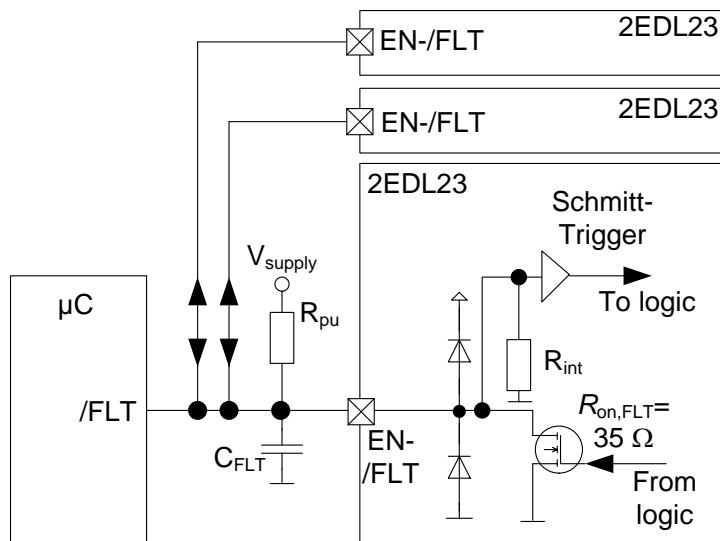
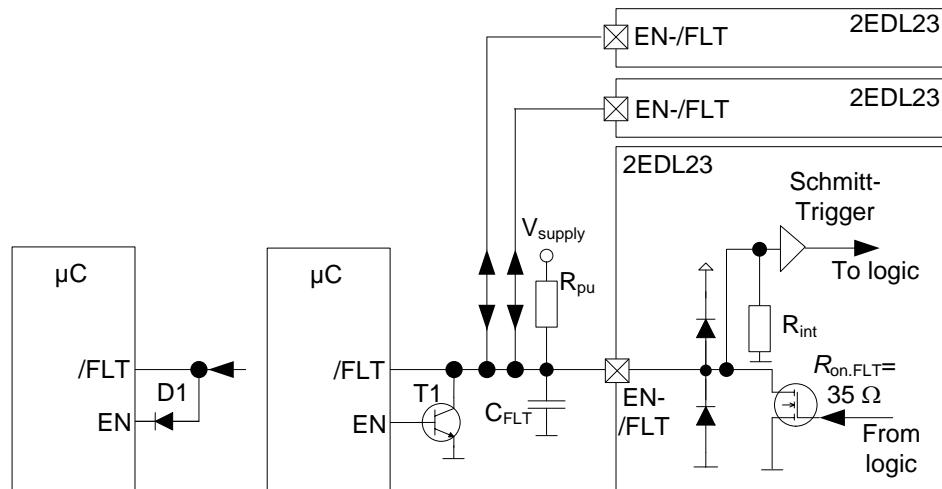

Figure 3 Circuit schematic for temporary latch of fault signal
Figure 4 Circuit diagram for release and shut down by microcontroller with a diode or a transistor
Figure 3 indicates the connection between the microcontroller and the driver ICs for a three phase drive system. All three EN-/FLT pins are connected directly to each other. This configuration does not consider an enable or shut down option by active manipulation at pin EN-/FLT. A common pull-up resistor R_{pu} enables the drive. The capacitor C_{FLT} has two functions. First, it acts as a filter capacitor for the polling input of the microcontroller and second, it works as a delay component for restart after an overcurrent protection event
It can be derived from equations (1) to (5) that there is no technically reasonable solution by extending the circuit of Figure 3 by simply adding an additional EN-pin of the microcontroller. A solution can be introduced by an additional small signal transistor or a diode, which actively pulls down the voltage level at the EN-/FLT pin in a short time. Thus, the microcontroller's EN-pin can act as an emergency shut down for the application according to Figure 4. Transistor T1 or diode D1 disable all driver ICs by pulling down all connected EN-/FLT pins and overriding the external pull-up resistor.
A restart signal by enabling from microcontroller side will follow the charging curve of capacitor C_{FLT} through pull-up resistor R_{pu} , when using the circuit of Figure 4. The charging curve is described by equation (6). With $R_c = R_{pu}$ the period of time $T_{EN,\mu C}$ until the system is finally released by the microcontroller is
During normal mode, the driver IC has a high resistive input as $R_{int} = 73$ k Ω , so that this case can usually be covered by the μ C capabilities. Please note here, as shown in section 3.1, that the integrated pull-down resistor R_{int} is n-times in parallel, when operating an n-phase system. This means $R_{int,N}^* = R_{int} / n$. In this case, please carefully calculate the proper value for R_{dec} to ensure the $V_{EN,high}$ level can still reach the maximum EN positive going threshold $V_{EN,TH+}$ of the driver IC which is 2.4 V for the 2EDL23. In case the driving capability of the microcontroller output pin is not enough to drive the EN-/FLT pin, an external pull-up resistor to V_{supply} as depicted in Figure 3 is recommended.